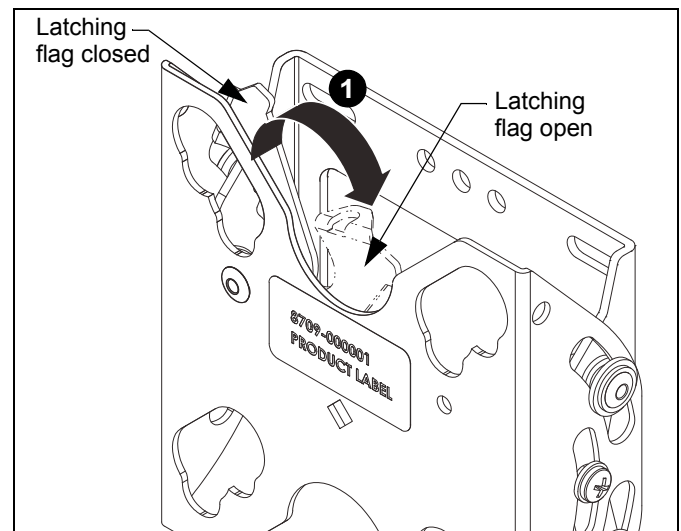

Figure 6
- Open latching flag by rotating flag clockwise on FTR (A). (See Figure 6)